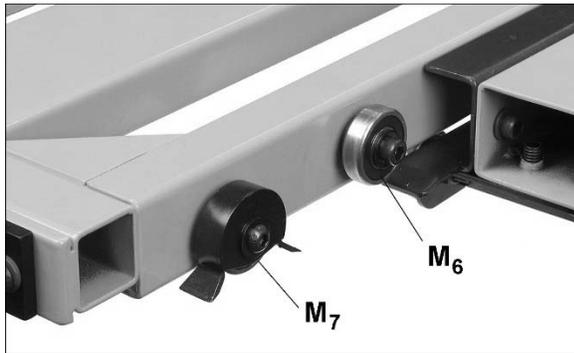

Figure 7-18
12. Adjust front bearing ( $M_6$ , Figure 7-18) in similar manner, until it just contacts inner rail.
13. If needed, adjust scraper bearings ( $M_7$ , Figure 7-18) at front and back so that scrapers just contact inner rail channel.